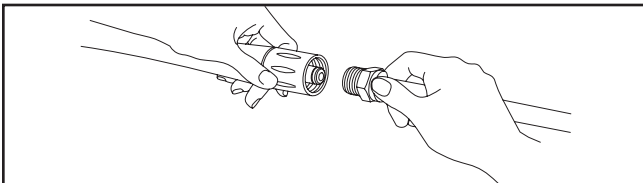

Figure 8: Connect nozzle extension to spray gun
6. Attach nozzle extension to spray gun (Figure 8). Tighten by hand.